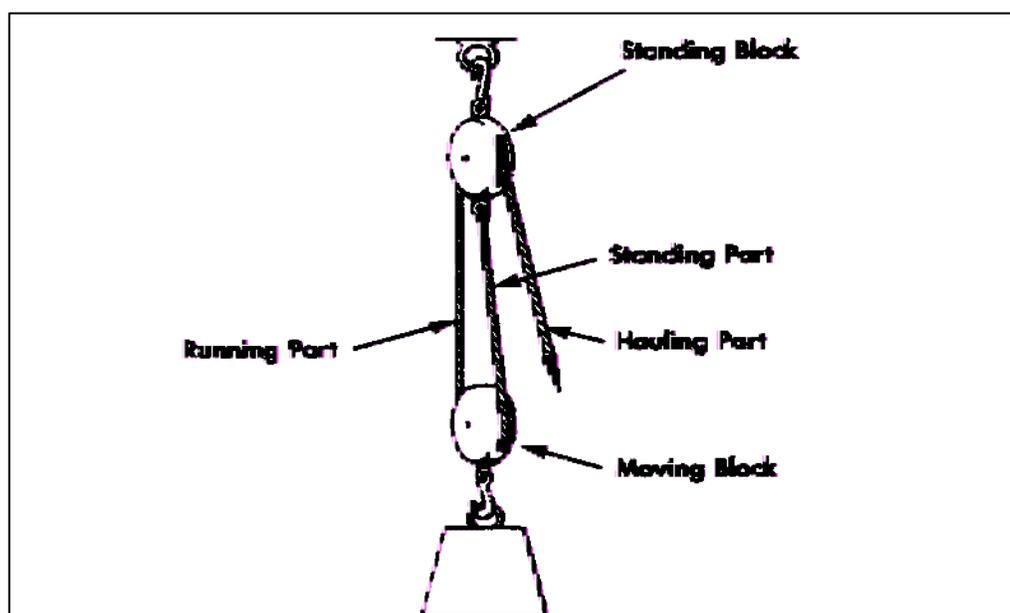

Figure 5.29-3 - Parts of a Tackle
- c. **Parts of a Tackle.** The names of the parts of a tackle are shown in Fig. 5.29-3. The standing part does not move. The running part pulls the running block along the standing part. The standing part can be secured to the standing block or the running block depending on the number of parts that make up the tackle.